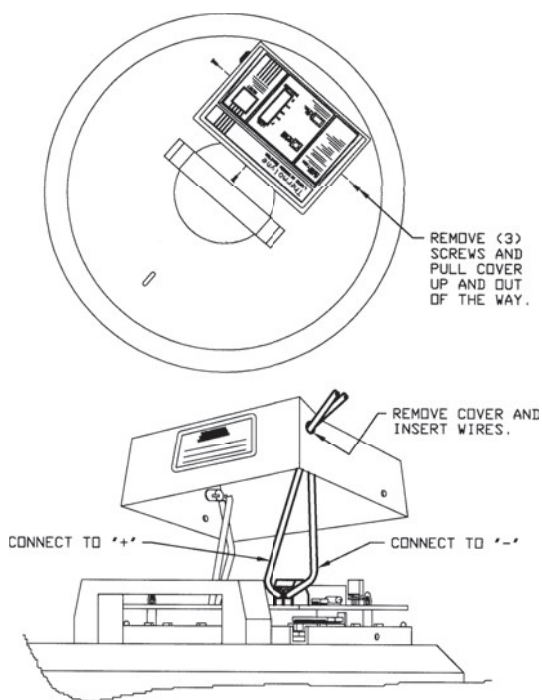

Figure 6-1. Connect to Remote Alarm
2. Remove the three screws securing the liquid nitrogen level monitor's cover. Pull the cover up and out of the way (see Figure 6-1).
4. Connect the remote alarm wires as shown in Figures 6-1, 2 and 3.